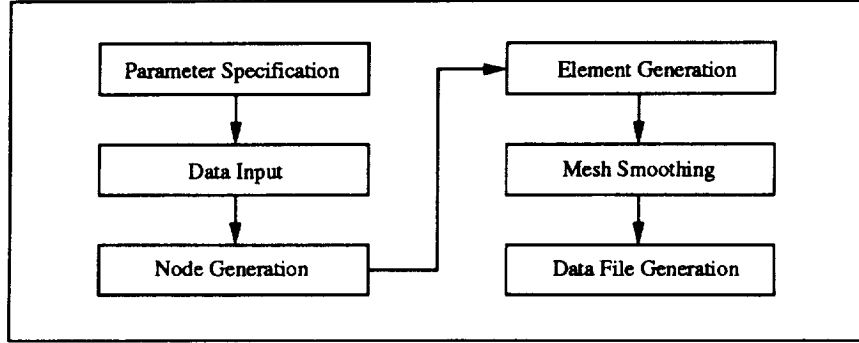

Figure 1: Six Modules in AUTOMESH-2D
There are six modules in the program as shown in Figure 1. In the first modules, the following five parameters are specified: (1) data input device; (2) echo mode of input data; (3) the shape of the exterior boundary of an analysis domain; (4) mesh generation of structures; and (5) node generation index  $N$ . The definition of each parameter will become obvious later.